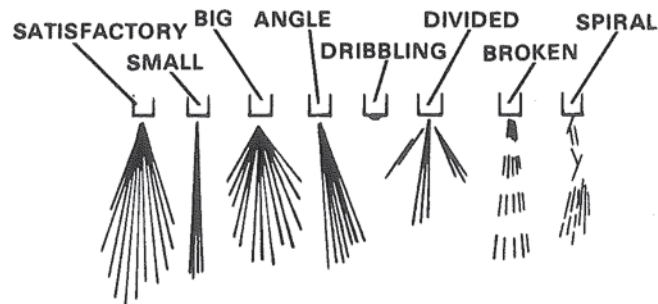

Figure 13. Nozzle Spray Pattern (Throttle Injection).
C. Spray pattern: check pattern with patterns shown in Figure 13.